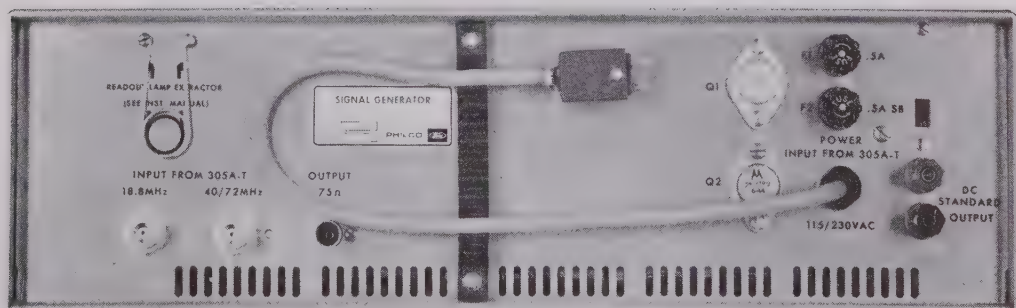

Figure 3-51. Model 305A-G Signal Generator, Back View
b. First Mixer, Module A2. (See Figure 3-51) Inputs to the first mixer are brought in from the 21.215 MHz crystal oscillator and from the Fine Tuning output of the Tuning Unit.